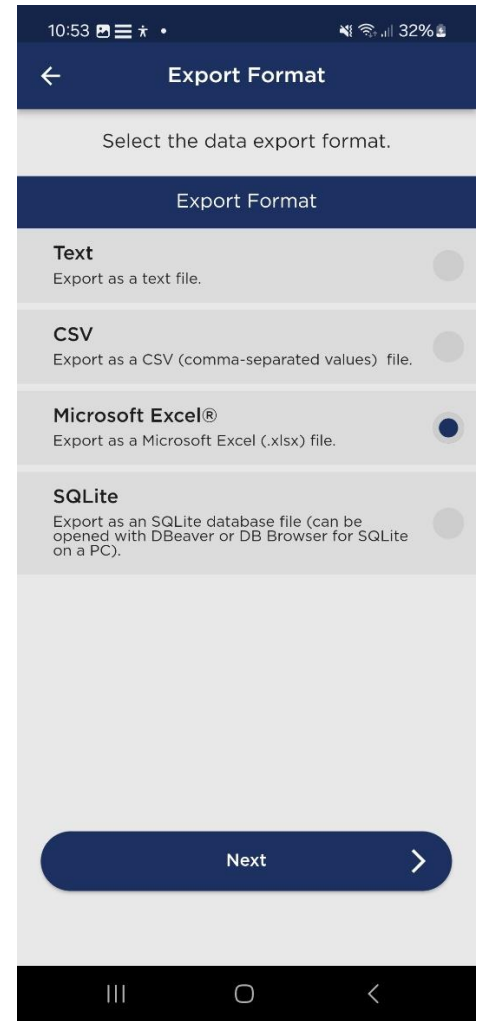

Figure 8-12: The *Export Format* page where you can select the desired format for exporting data.
- In this step, you will choose the format for exporting your data on the *Export Format* page (see Figure 8-12). The available formats are: